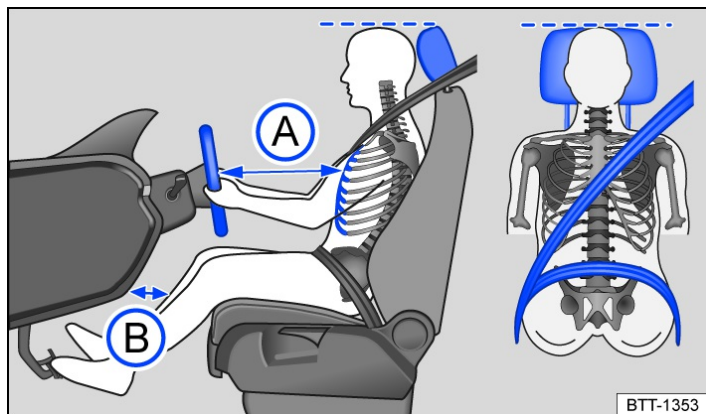

Fig. 1 General example: correct distance between the driver and the steering wheel, correct safety belt routing and correct head restraint adjustment.
- Adjust the head restraint so that the upper edge of the head restraint is in line with the upper portion of the head as much as possible, but not lower than eye level. Position the back of the head as close as possible to the head restraint → *fig. 1*.